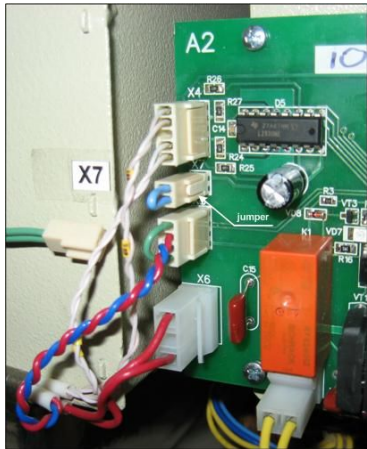
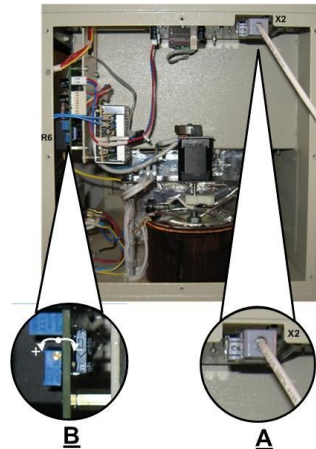

Figure 5
Figure 6
d) remove the side and back housing from the high-voltage stand. Remove the lid lock connector X7 and set the jumper (see figure 5). Connect remote control to the X2 socket (see figure 6);
r) in the case of differences between the values of reduced error and specified. Unplug the power cable from the power supply line and make adjustment of an embedded device, which measures test voltage, using the trimmer R6 (see figure 6);